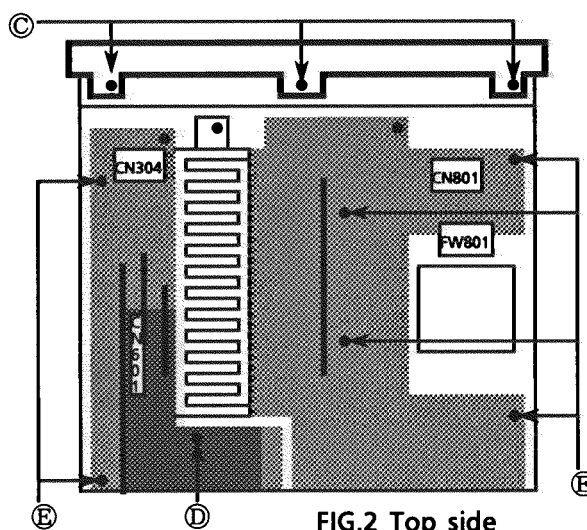

FIG.2 Top side
2. Remove 3 screws **K** on the bottom side and 3 screws **C** on the top side.(FIG.2,4)
2. Remove 5 screws **D** and **F**.(FIG.2,3)
4. Remove 6 screws **E**.(FIG.2)